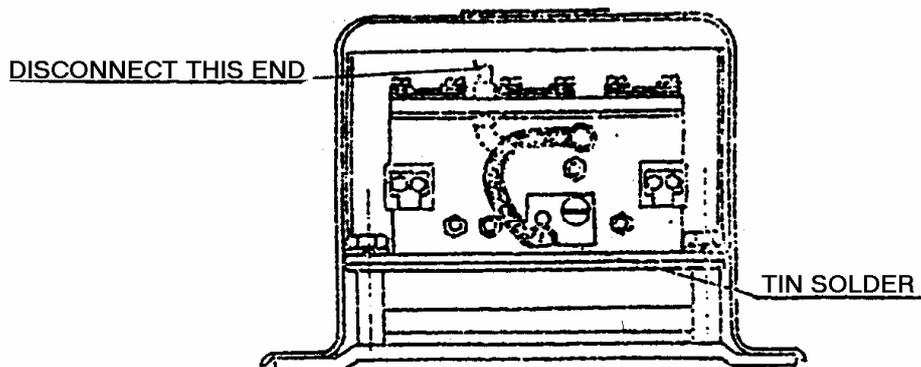

Fig. 1
1. Remove the relay and connect the inverse current coil with the wire of the same cross-section as the wire making the connection showed in Fig. 1.